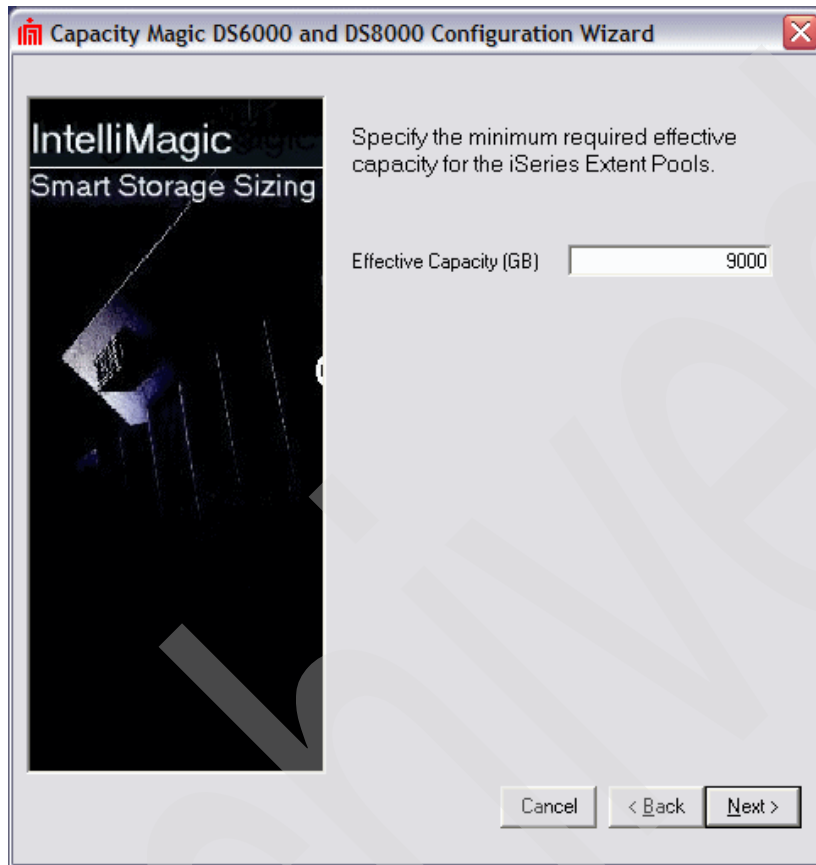

Figure 3-16 Inserting the desired effective capacity
7. Specify the desired effective capacity. In our example, we need effective capacity 9 TB, so we enter this value (as shown in Figure 3-16). Note that usable capacity for i5/OS is smaller than the effective capacity, as explained in “i5/OS LUNs and usable capacity for i5/OS” on page 73. Click **Next**.